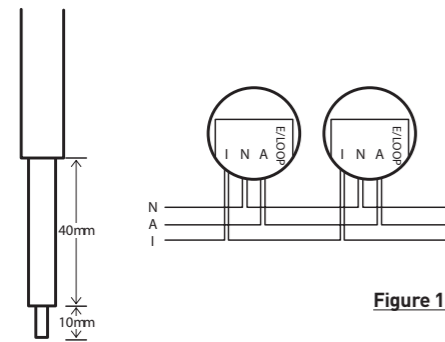

Figure 1
3. Strip the Active, Neutral & Interconnect (if used) wires back according to the strip length shown in figure 1.
5. Connect the wires to the correct terminals on the mounting base as shown in figure 1. Ensure the screws are fully tightened.